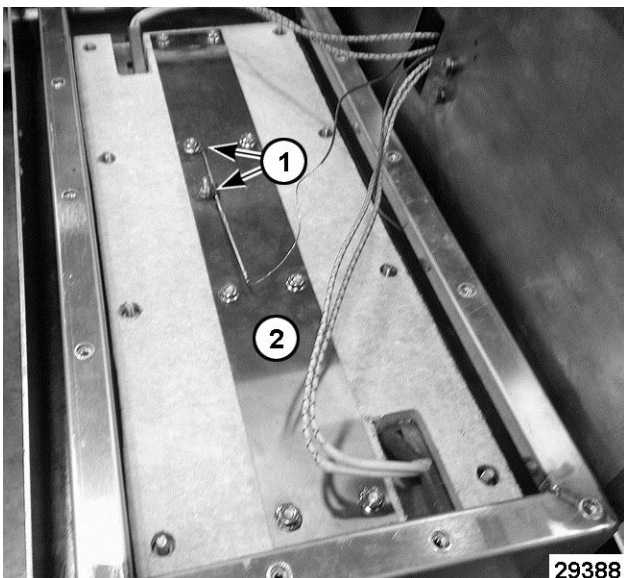

Fig. 23
- D. Remove mounting clips (1, Fig. 23) securing high limit capillary bulb to platen insulation retainer (2, Fig. 23).